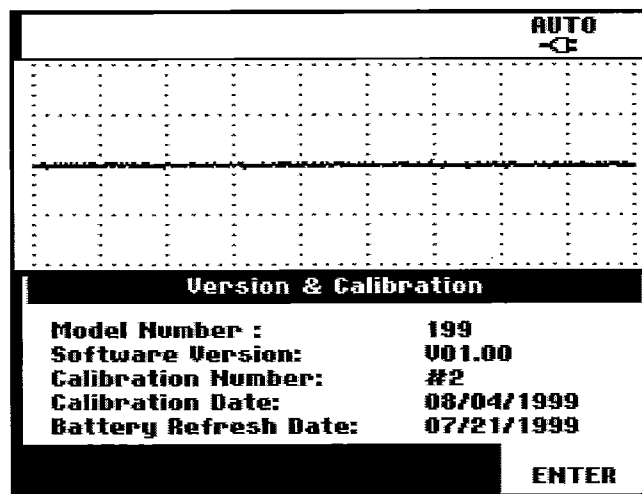

Figure 5-1. Version & Calibration Screen
1. Press **USER**, then press **F3** to see the Version & Calibration data (see Figure 5.1).